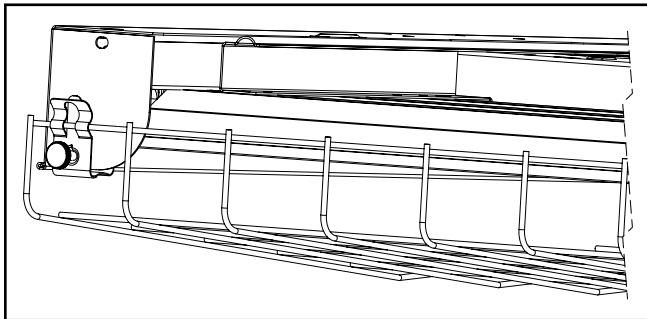

Figure 3.
4. Line up wireguard/clip with K.O. and tighten thumb screw until it is through the hole in the side of the fixture endplate (Figure 3.).